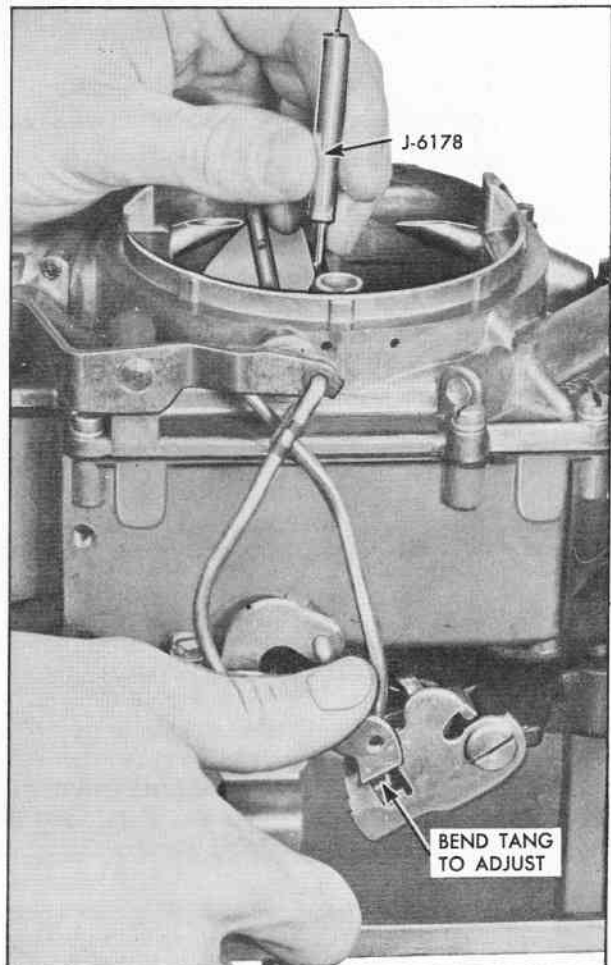

Fig. 27 Checking Unloader Adjustment
2. There should now be a clearance of .115" (gauge J-6178) between top of choke valve and the dividing wall of the air horn (Fig. 27). Bend tang on the fast idle cam to adjust as necessary.